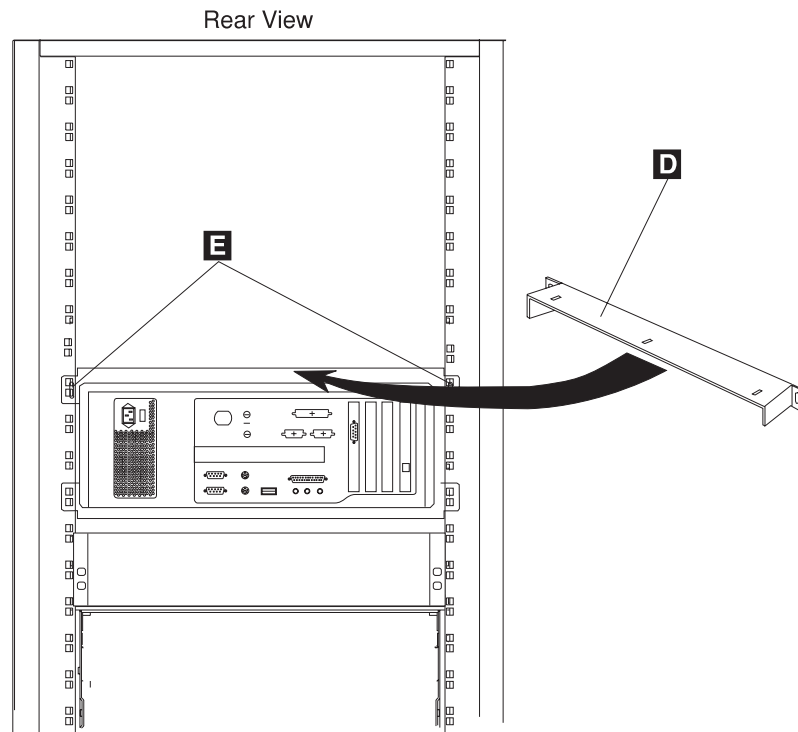

Figure 1-14. Support Installation at the Rear of a 37U Rack
5. ____ On the rear of the rack install the support **D** using the screws (PN 43G3084) **E** (see Figure 1-14).